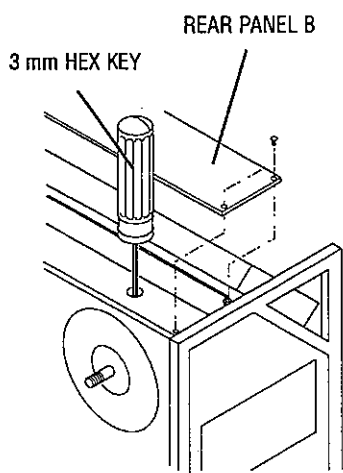

Figure 4-9
4. If adjustment is required, take out 4 screws to remove the rear panel B (refer to **Figure 4-9**). Loosen the two M4 hex socket cap screws that hold the Reel Table to the Reel Motor Shaft using a 3 mm hex wrench inserted through the holes in the top of the machine and move the Reel Table in or out as required. Be very careful not to rotate the Reel Table in relation to the motor shaft. Tighten the screws.